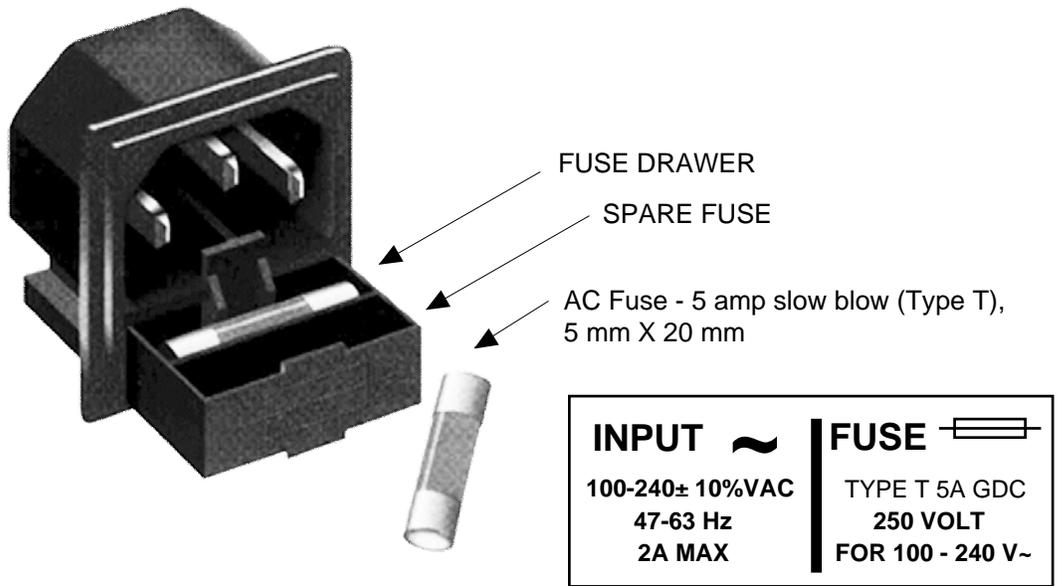

FIGURE 2.4 Fuse Location and Spare Fuse
8. **AC Fuse** - The fuse is a 5 mm X 20 mm, 2 amp slow blow (Type T) and is inserted in the far slot in the drawer below the AC input as shown in Figure 2.4. There is a spare fuse in the near slot.